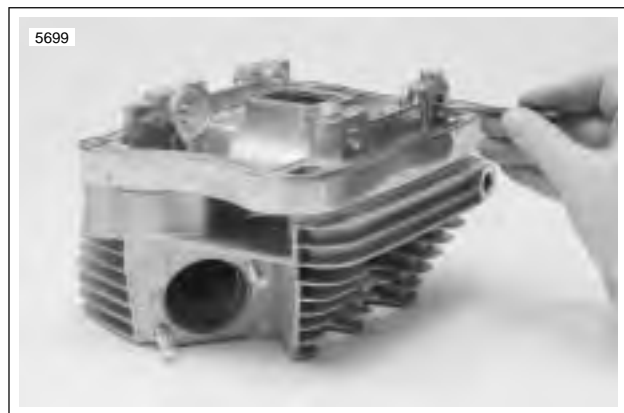

**Figure 3-12. Measuring Rocker Arm Shaft Diameter (Rocker Cover Position)**
- a. Where shaft fits in lower rocker arm cover. See Figure 3-12.